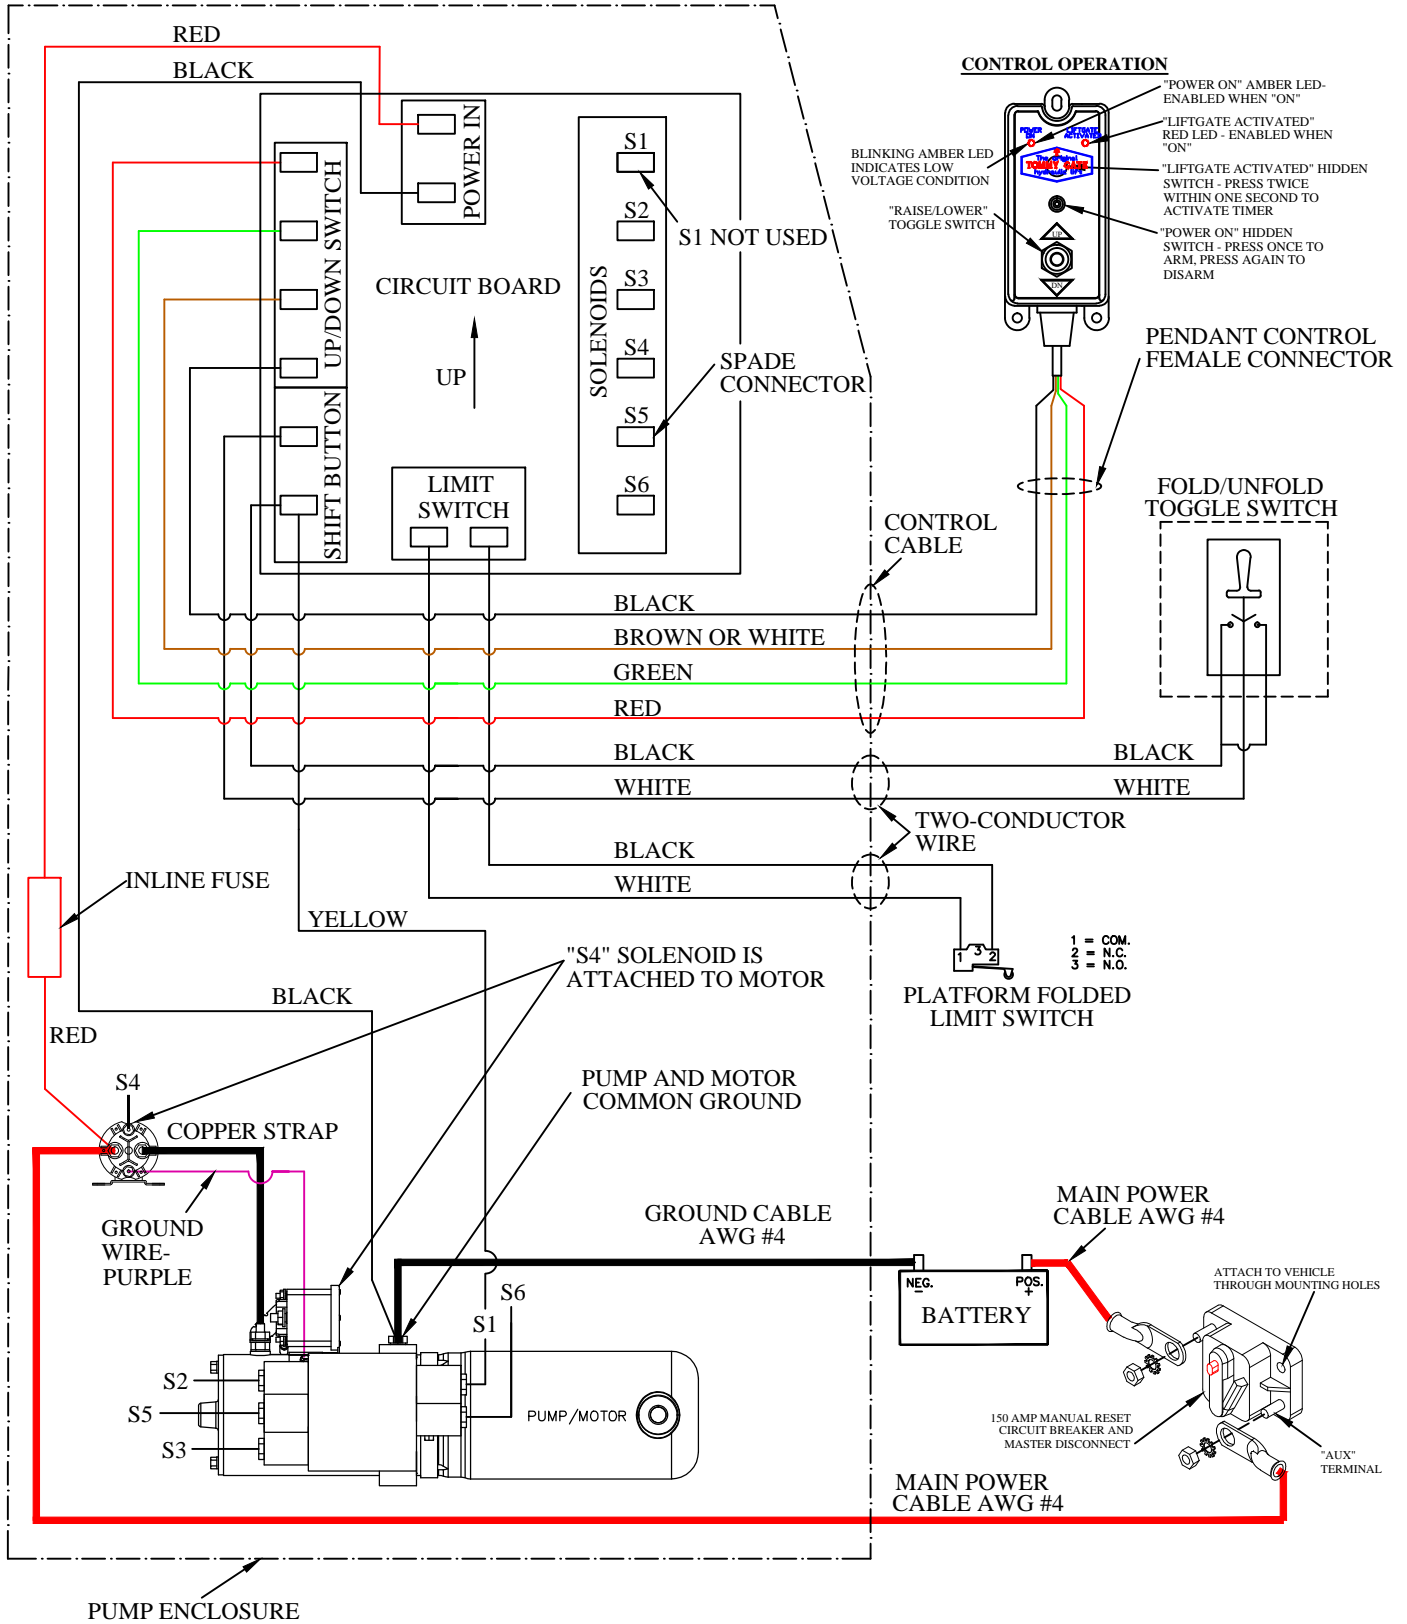

Figure 13: Wiring diagram.
13. **Connect** the circuit breaker and battery as outlined in the *Tommy Gate Recommended Electrical Wiring Guidelines* and wiring diagram (Figure 13).
13. **Connect** the wires to the toggle switch (Figure 13).
15. **Install** the supplied two (2) 1/4-20 self-tapping screws, through the female connector, through the mounting bracket, and into the door pillar.